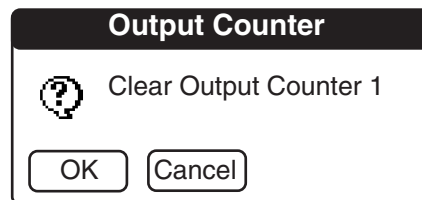

Figure 4-75 Clear Output Counter 1(2) Dialog
Selecting **Clear Output Counter 1(2)** initiates a dialog screen (Figure 4-75). The user can select **OK** to reset Output Counter 1(2) or **Cancel**.